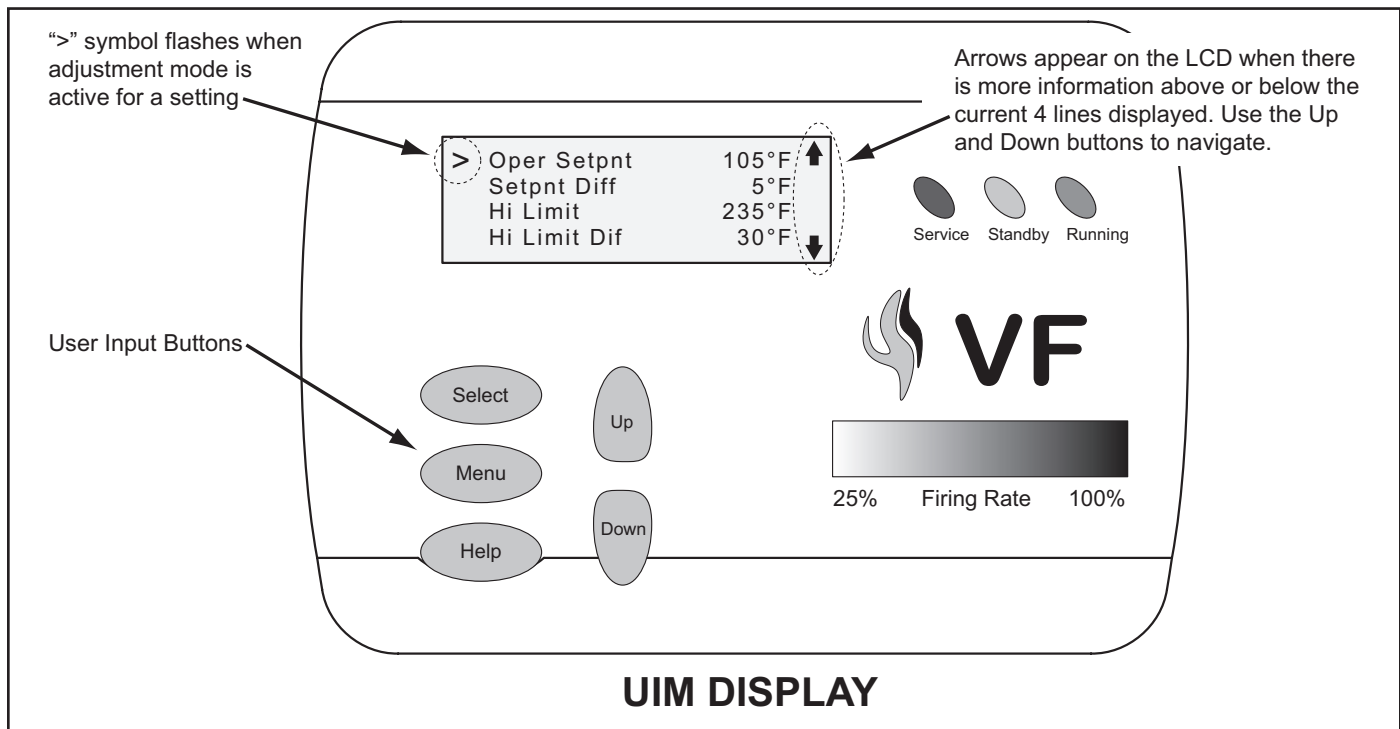
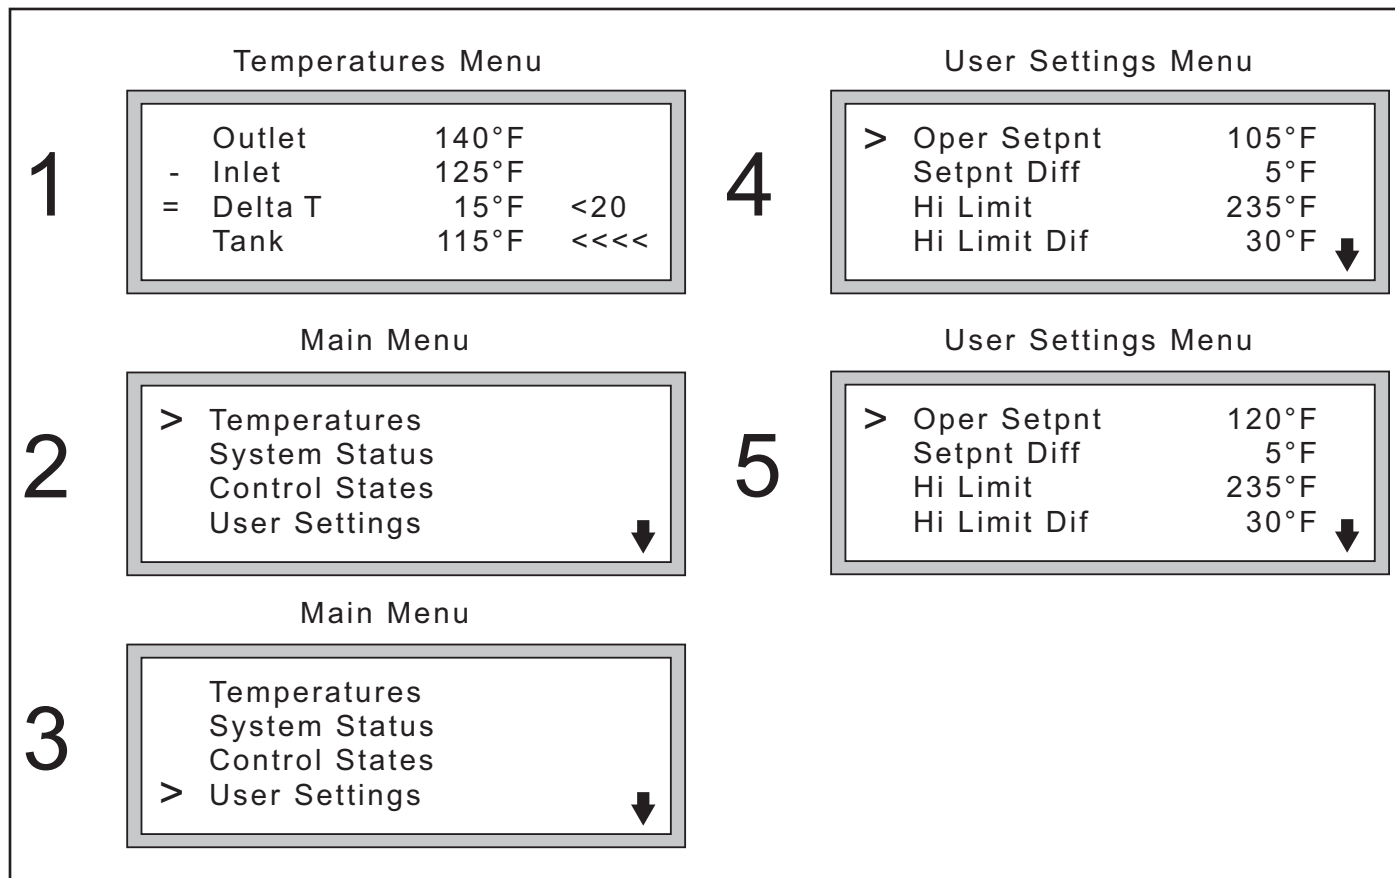

Figure 31
Figure 32
- Activate the adjustment mode for various user settings. The [>] symbol will be flashing slowly to the left of the user setting when the adjustment mode is active for that setting, see Figure 31.
- Scroll or navigate up and down lists of Control System menus and menu items. When the current menu contains more than four lines of text, Up and Down arrows will appear on the right side of the LCD screen indicating more information is available off screen, see Figure 31.
Figure 32 and the instructions below show how to navigate to the User Settings Menu and change the Operating Setpoint. See Figure 31 on page 42 to locate the User Input Buttons mentioned in these instructions. Use this same procedure to adjust any of the Control System user settings.
Refer to Figure 32 for these instructions.
Temperatures	Displays the temperatures sensed from the Outlet and Inlet Temperature Probes, see page 15. Temperatures sensed from the Remote Temperature Probe or an optional Quad Thermistor Probe are also displayed in the Temperatures menu as "Tank", see pages 15, 16 and Figure 32 on page 43. This menu also displays the calculated temperature rise (Outlet minus Inlet) through the Boiler, also referred to as the Delta T and expressed as ΔT . The Temperatures Menu is the default menu. The Control System will revert to the Temperatures menu when there is no user input for approximately 90 seconds. There are no adjustable user settings in this menu.